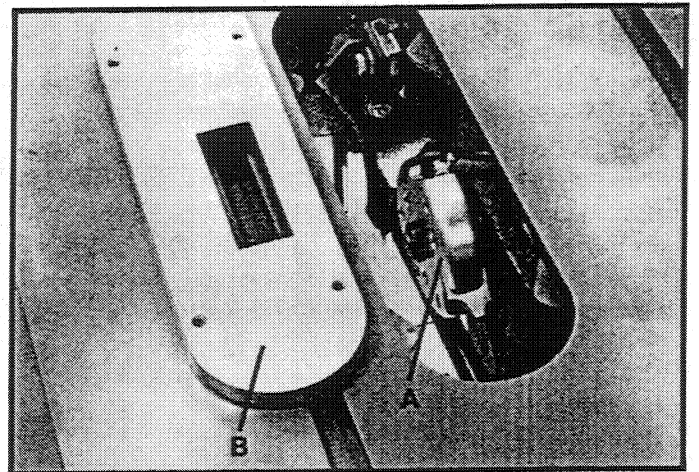

Fig. 87
The moulding cutterhead (A) Fig. 87, is assembled to the saw arbor as shown. Also, the accessory moulding cutterhead table insert (B), must be used in place of the standard table insert.